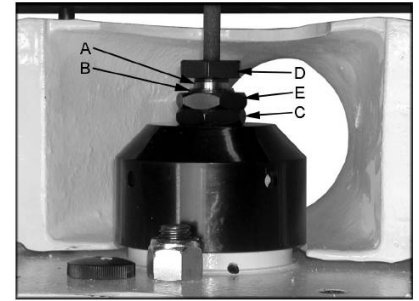

Fig 3
Before inserting the threaded spindle (A, Fig 3) into the spindle holder (B) make sure the surfaces are clean.
Use the provided wrenches to hold the upper arbor housing nut (E, Fig 3) while turning the arbor nut (D) counter clockwise.